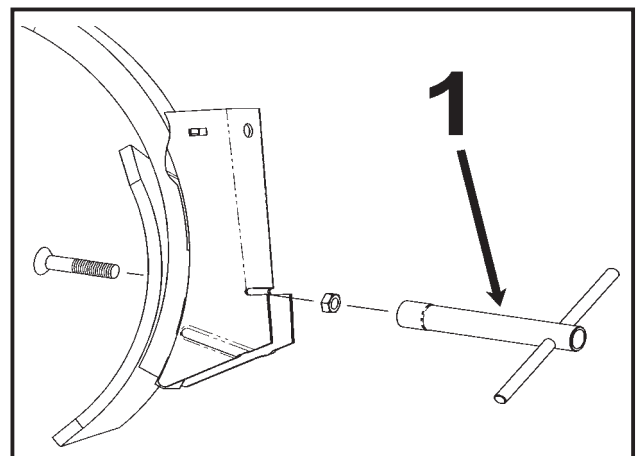

fig. 22
After some working hours, all bolts must be inspected and tightened if necessary, specially those tying the coulter. For these bolts, a special tube key (1, fig. 22) is supplied with the machine.